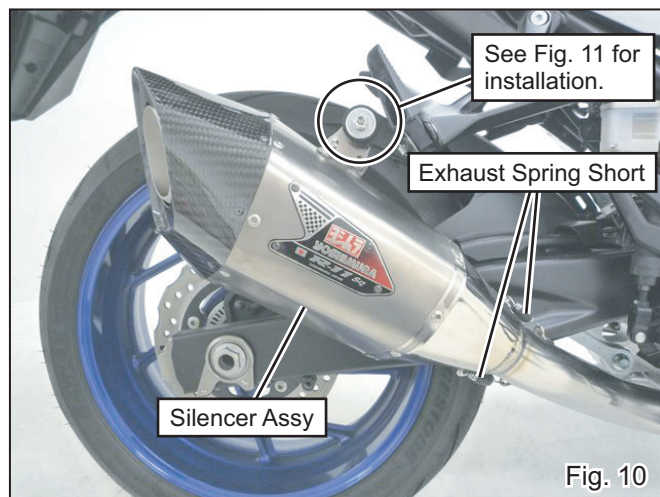

Fig. 10
- 12) Install Silencer Assy to Tailpipe and fix them with 2 of Exhaust Spring (See Fig 10).